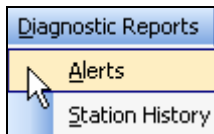

Figure 20.0.1
1. From the toolbar at the top of the screen select **Diagnostic Reports** then scroll down to **Alerts** and click on it (Figure 20.0.1).